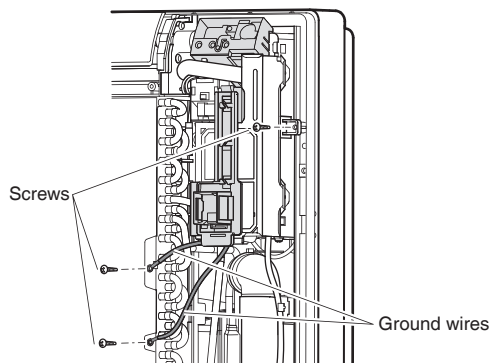

Fig. 6
- 5) After removing the ground wires (2 screws), remove the electrical wiring box (1 screw). (See Fig. 6)